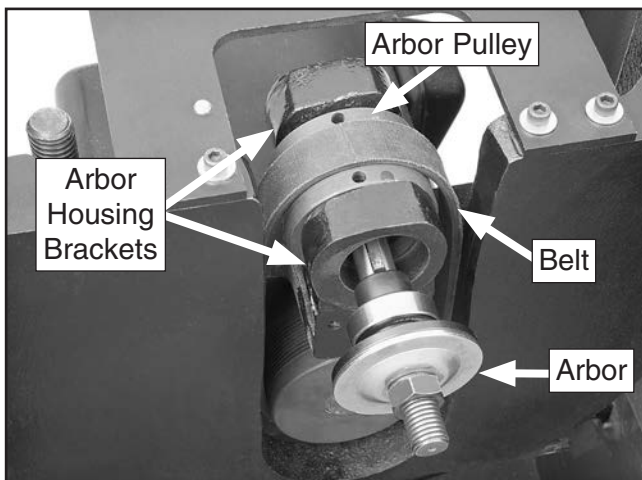

Figure 138. Re-installing arbor and belt.
24. Place the arbor pulley between the arbor housing brackets, slide the belt over the pulley, then insert the arbor into the pulley, as shown in **Figure 138**.